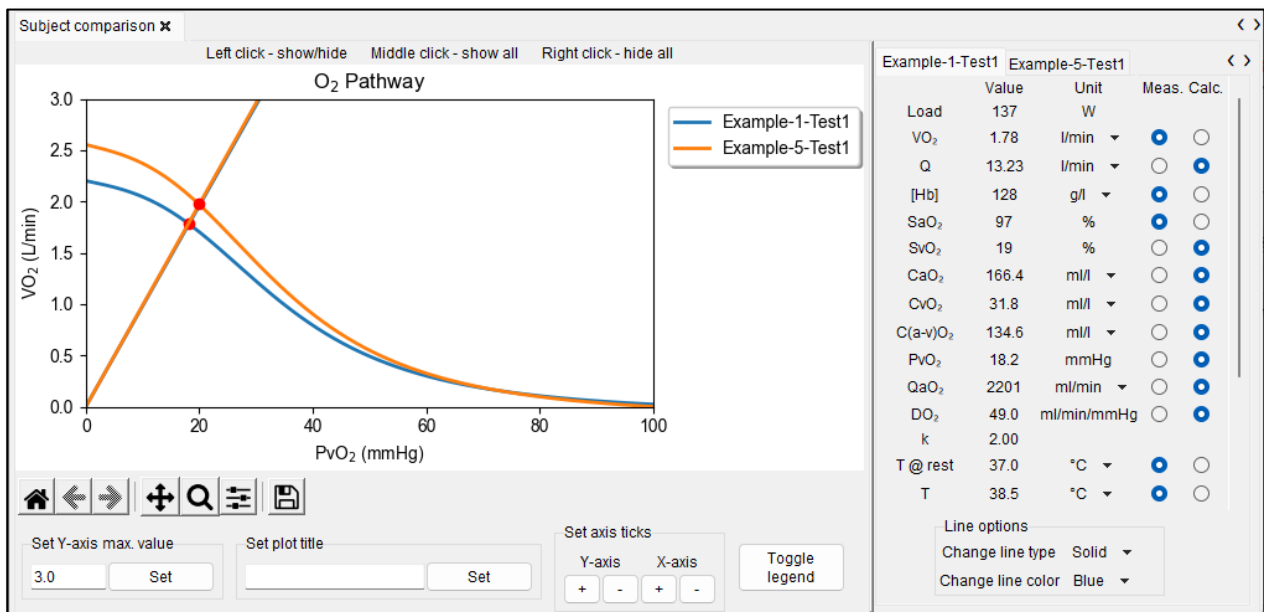

Figure 45
8. The comparison figure is shown in the plot panel (Figure 45).